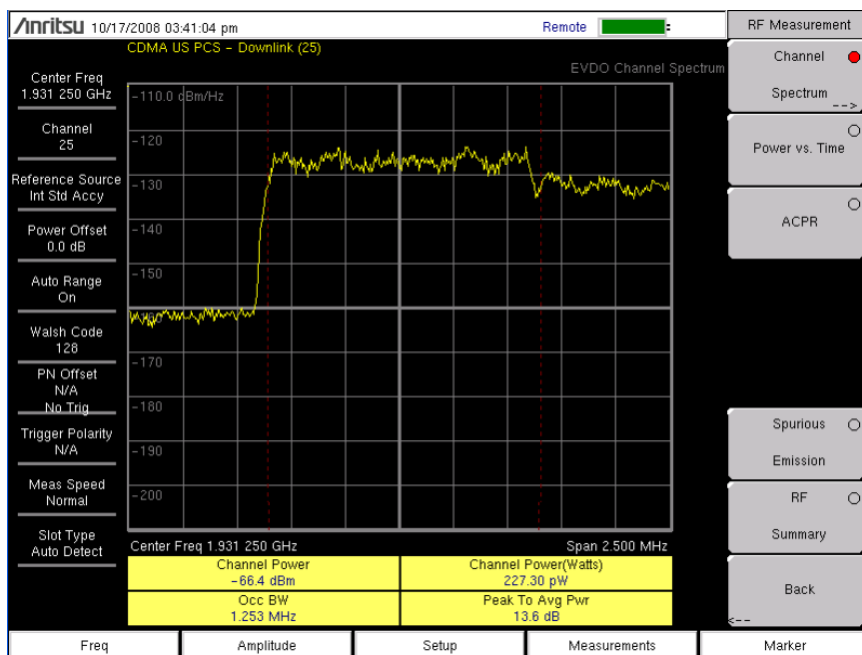

Figure 3-2. EVDO Channel Spectrum
2. Press Channel Spectrum to display the active measurement (Figure 3-2).